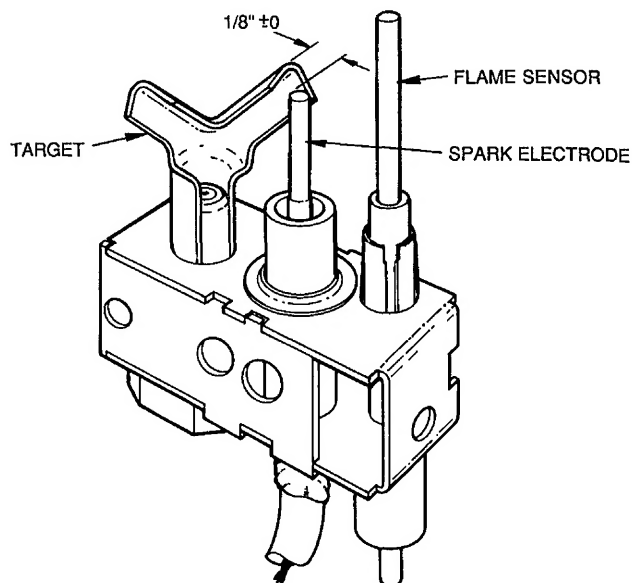

Fig. 15 — Position of Electrode to Pilot
**Pilot** — Inspect the pilot and clean (when necessary) at the beginning of each heating season. Remove the accumulation of soot and carbon from the pilot. The pilot flame must be high enough for proper contact with the flame sensor. Pilot flame must also come in contact with the pilot hood (target) for proper operation. If the pilot flame appears too hard (lifting and blowing) or too soft (unstable), check inlet gas pressure for proper value. (See Table 4.) The spark electrode must be located so the spark travels through a combustible mixture of gas; if necessary, readjust the electrode as shown in Fig. 15; be certain to maintain the 1/8-in. spark gap.